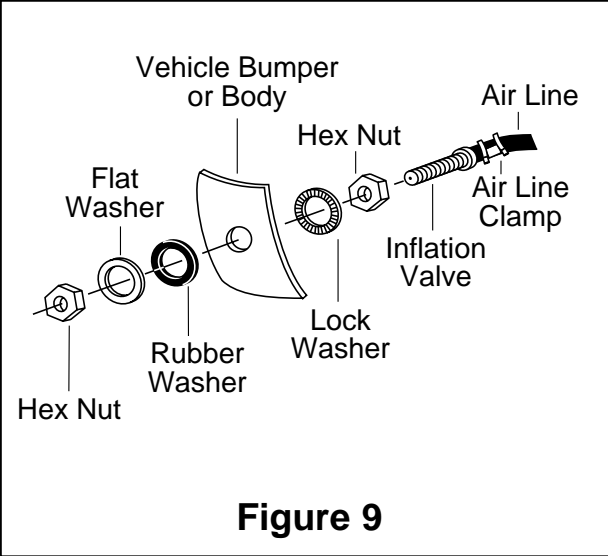

Figure 9
- I. Drill a 5/16" hole for inflation valve and mount as illustrated (Rubber washer is for outside weather seal (Figure 9).
- F. Drill 5/16” hole for inflating valves and mount as illustrated (Rubber washer is for outside weather seal, Figure 9).